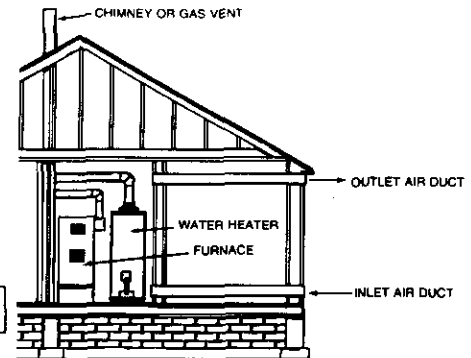

Figure 5
3. When communicating with the outdoors through horizontal ducts, each opening shall have a minimum free area of 1 square inch per 2,000 BTU per hour of total input rating of all equipment in the enclosure. (See Figure 5.)
4. When ducts are used, they shall be of the same cross-sectional area as the free area of the openings to which they connect. The minimum short side dimension of rectangular air ducts shall not be less than 3 inches. (See Figure 5.)